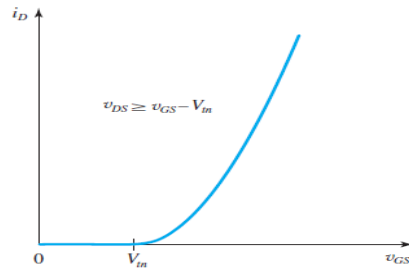

Figure 1: Drain current I_D vs gate to source voltage V_{GS} graph of an enhancement type NMOS showing threshold voltage V_{tn}
1. Connect the circuits as shown in Fig. 1 and Fig. 2.